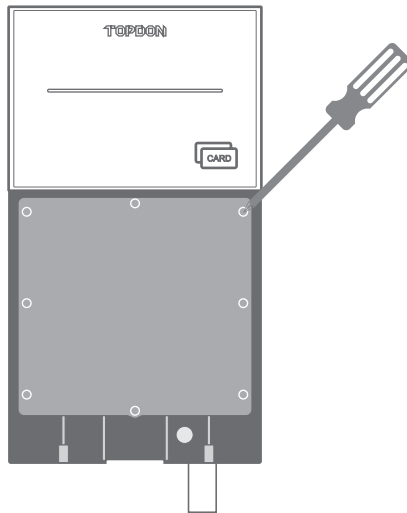

Fig. 4-11
2. Unscrew the eight screws to remove the inner cover. (See Fig. 4-11)